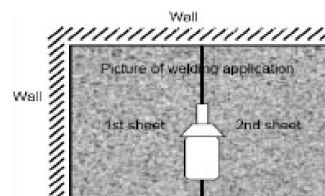

Fig.11
1. Insert the tip of the welding applicator in the seam. Pull with steady pressure. (See Fig.11)